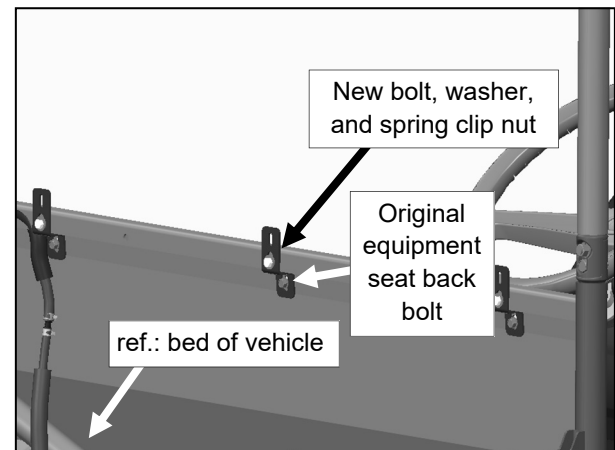

Fig. 3.2 (view from rear of passenger's side)
3.2 Lift the dump bed. Per fig. 3.2, install the rear panel lower mount assembly as follows: insert the spring clip nut into the empty hole above the upper center seat back bolt (oriented so the threads are towards the front of the vehicle), temporarily remove the upper center seat back bolt, place the rear panel lower mount assembly in position and oriented as shown, re-install the original equipment seat back bolt into the lower slot. Use caution to avoid cross threading the threaded insert. Start thread engagement by hand. Install a new 1/4-20 x 3/4" long hex head flanged bolt into the middle slot of the assembly (engaging the threaded spring clip nut). Tighten both bolts.